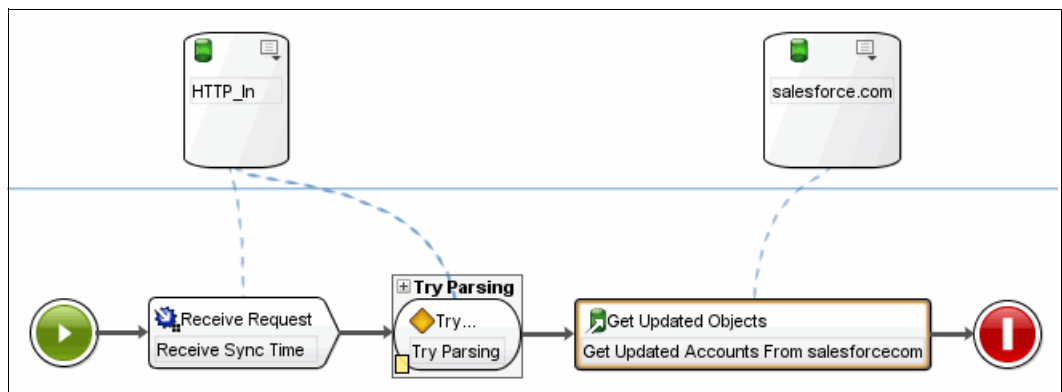

Figure 10-95 Orchestration with Get Updated Objects
8. At this point, you completed the steps to retrieve the updated accounts from Salesforce.com based on SyncTime. Your orchestration will look similar to that shown in Figure 10-95. (The Try-Catch block is collapsed for better visibility in this figure.)